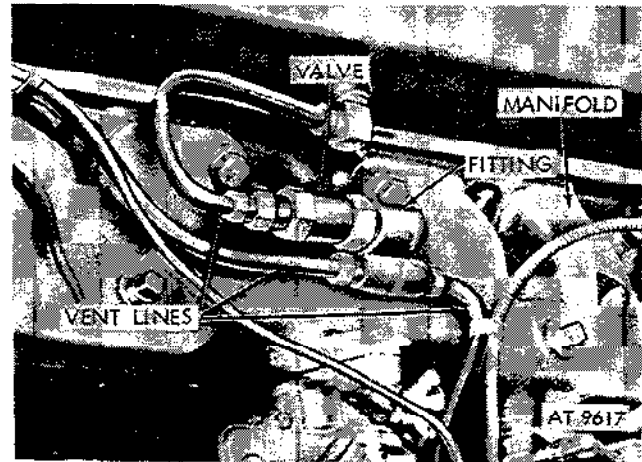

Figure 2-72. Disconnect vent lines from valve and fitting.
(3) Disconnect all vent lines from crankcase ventilation metering valve and fitting (see fig. 2-72).